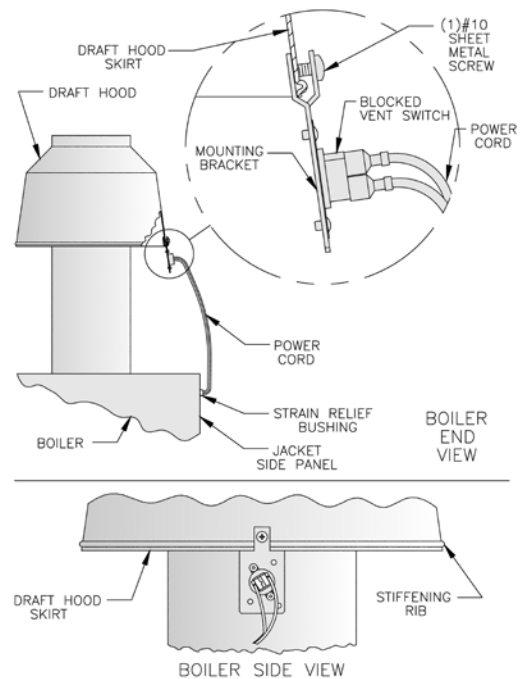

Figure 10: Blocked Vent Switch Installation
3. Position mounting bracket onto lower edge of Draft Hood skirt. Locate center tooth (with #10 sheet metal screw) on outside and other two teeth inside Draft Hood skirt. See Figure 10.
8. Verify power cord, mounting bracket and Blocked Vent Switch are secure and located as shown in Figure 10.